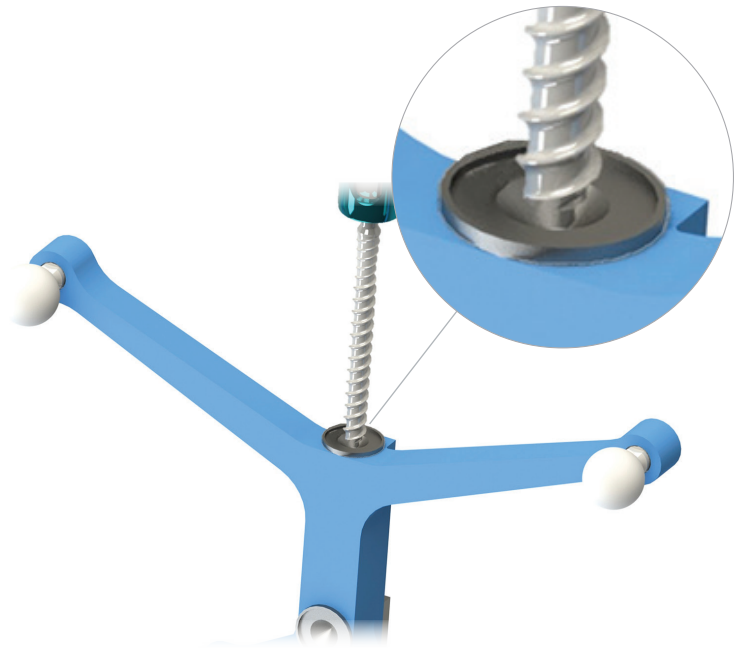

Figure 8
- Now that the screw projection has been selected, the instrument assembly including the Navlock array, driver and screw can be verified by touching the tip of the screw to the divot in the patient reference array (Figure 8).